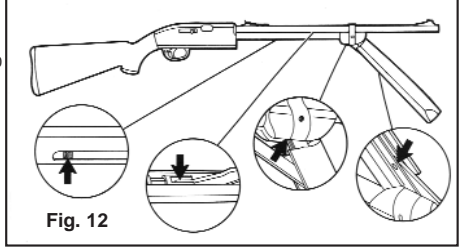

Fig. 12
- Your airgun will maintain proper function longer if you oil it every 250 shots. Put 1 drop of Crosman 0241 Pellgunoil® on the pump pivot pins and the pump cup in the pump mechanism. (Fig. 12) DO NOT use petroleum distillate based oil or solvent and DO NOT over-oil as this can cause damage to your gun.